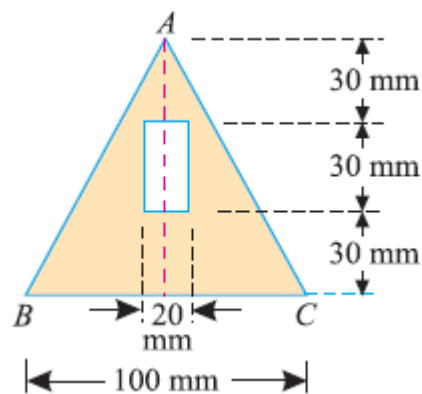

Fig.24
7. A rectangular hole is made in a triangular section as shown in Fig.24. Determine the moment of inertia of the section about X-X axis passing through its center of gravity and the base BC. [10 M]